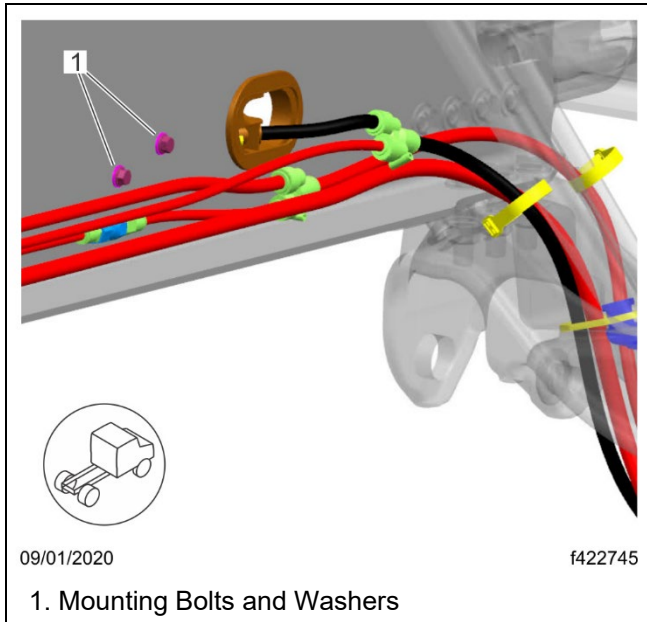
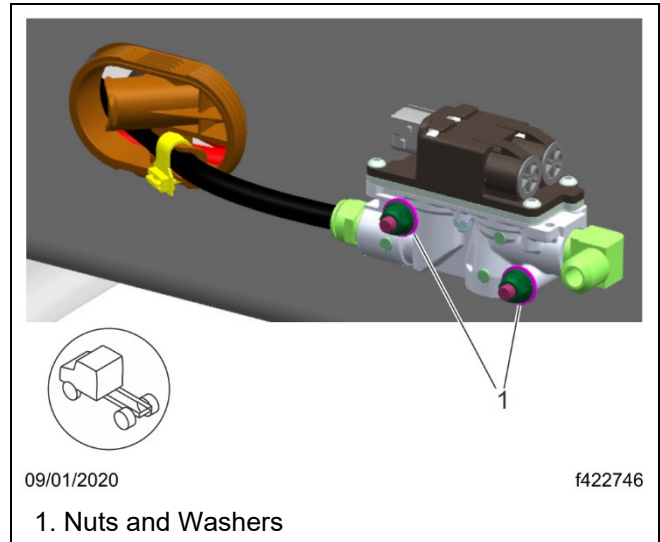

Fig. 12, Modulator Valve Fasteners, Inside Frame Rail View
Fig. 13, Modulator Valve Fasteners, Outside Frame Rail View
11. Use a 1/2-inch socket wrench along with the new bolts, spacers, and washers (supplied in the kit) to install the modulator on the vehicle. Tighten the bolts 11 lbf·ft (15 N·m). See Fig. 10, Fig. 11, Fig. 12, and Fig. 13.